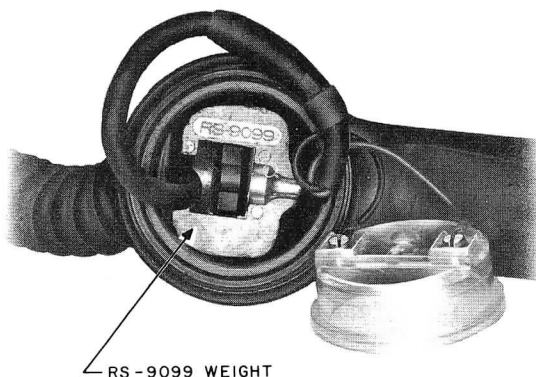

Fig. 30 — Weighted G1 Hand Set
3.12 Weighted G1 hand sets (Fig. 30) may be furnished on coin collectors when authorized locally. They are used on 190 series and lower number coin collectors that have been modified with 425B network but do not have light weight switchhook assemblies. Coin collectors modified for network operation are identified by the letter N following the series number. Weight is added to transmitter end of handset and should be reused when maintenance requires replacement of handset.